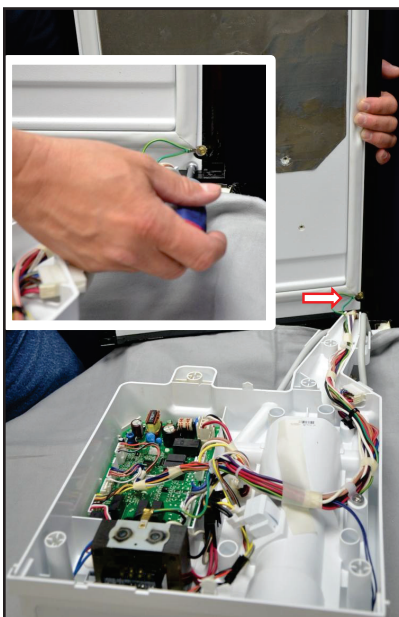

FIGURE 23
6. Lay the control housing on the board and blanket previously positioned. While supporting top remove the ground wire. See *Figure 23*.